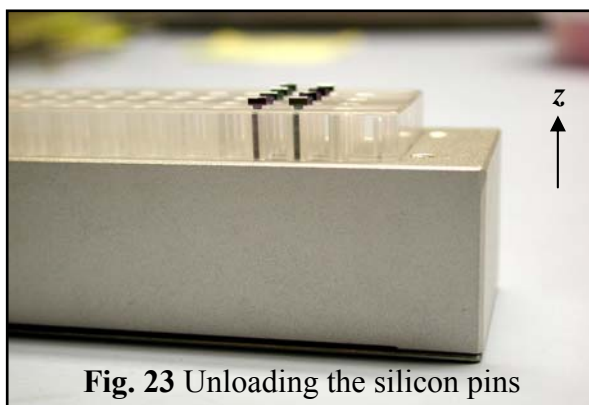

Fig. 23 Unloading the silicon pins
- Slowly lower the printhead until the pin tips are ~1-2 mm above the slide surface. Now gently lower the printhead so that the pins rise up in the collimator. Once the printhead is completely lowered down, the heads of the pins rise up above the unloading funnel as shown in Fig. 23. Now the pins can be easily picked up with the tweezers as the pins are almost out of the bottom collimator and the unloading funnel prevents the pins from moving side ways while you pick up the pins minimizing any possible pin damage during the unloading operation.